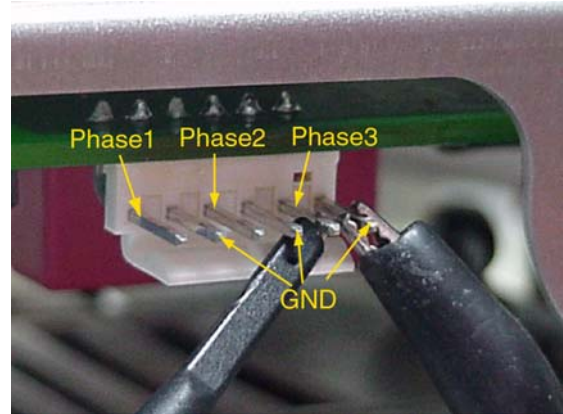

Figure 4-35 Soft-Start phase 3 Output Pulse Measurement
13. Hook the scope test probe to phase 3 of the Soft-Start output pins, as shown in Figure 4-35. Repeat steps 8 to 11.